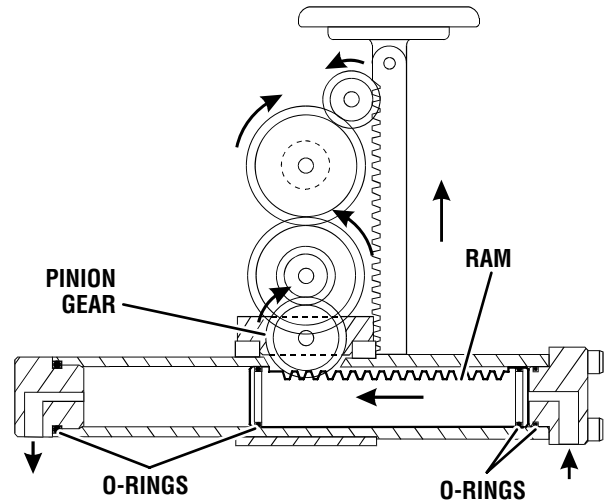

Figure 1-12. Kidney Lift Cylinder Assembly
5. Kidney Lift Cylinders - The two kidney lift cylinders have a ram that has rack gear teeth cut into the top surface. O-Rings on each end of the ram allow the ram to also serve as the pistons. The rack teeth cut into the top of the ram meshes with a pinion gear. This gear meshes with other gears to supply the up or down drive for the kidney lift bars, depending on which direction the oil is pumped into the cylinder. See figure 1-12.